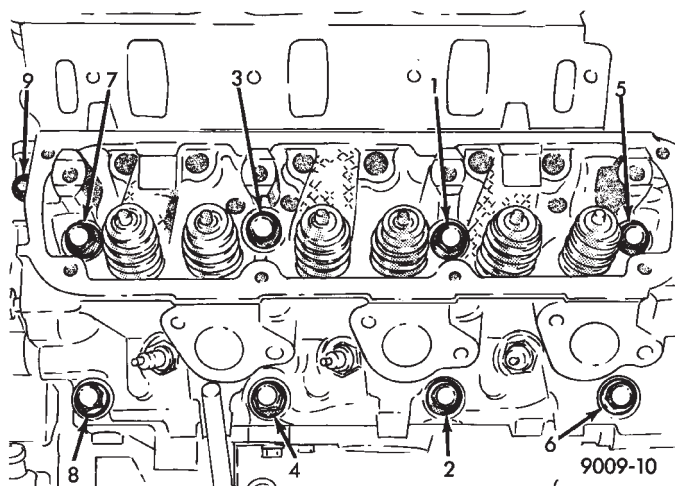
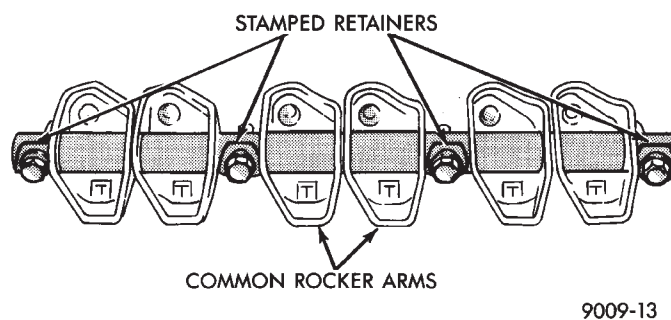

Fig. 31 Cylinder Head Bolts Location and Tightening Sequence
Fig. 34 Rocker Arm Shaft Retainers
(3) Disconnect coil wires, sending unit wire, heater hoses and bypass hose.
(4) Remove PCV system hoses, evaporation control system hose and cylinder head covers.
(5) Remove exhaust manifolds.
(6) Remove rocker arm and shaft assemblies. Remove push rods and **tag to ensure installation in original locations.**
(7) Remove the 9 head bolts from each cylinder head and remove cylinder heads (Fig. 31).
(5) Tighten the cylinder head bolts 1 thru 8 in the sequence shown in (Fig. 31). Using the 4 step torque turn method, tighten according to the following values:
(6) Tighten head bolt number 9 (Fig. 31) to 33 N·m (25 ft. lbs.) after head bolts 1 thru 8 have been tighten to specifications.
(7) Inspect push rods and replace worn or bent rods.
(8) Install push rods, rocker arm and shaft assemblies with the stamped steel retainers in the four positions, tighten to 28 N·m (250 in. lbs.) (Fig. 34).
(9) Place new cylinder head cover gaskets in position and install cylinder head covers. Tighten to 12 N·m (105 in. lbs.).